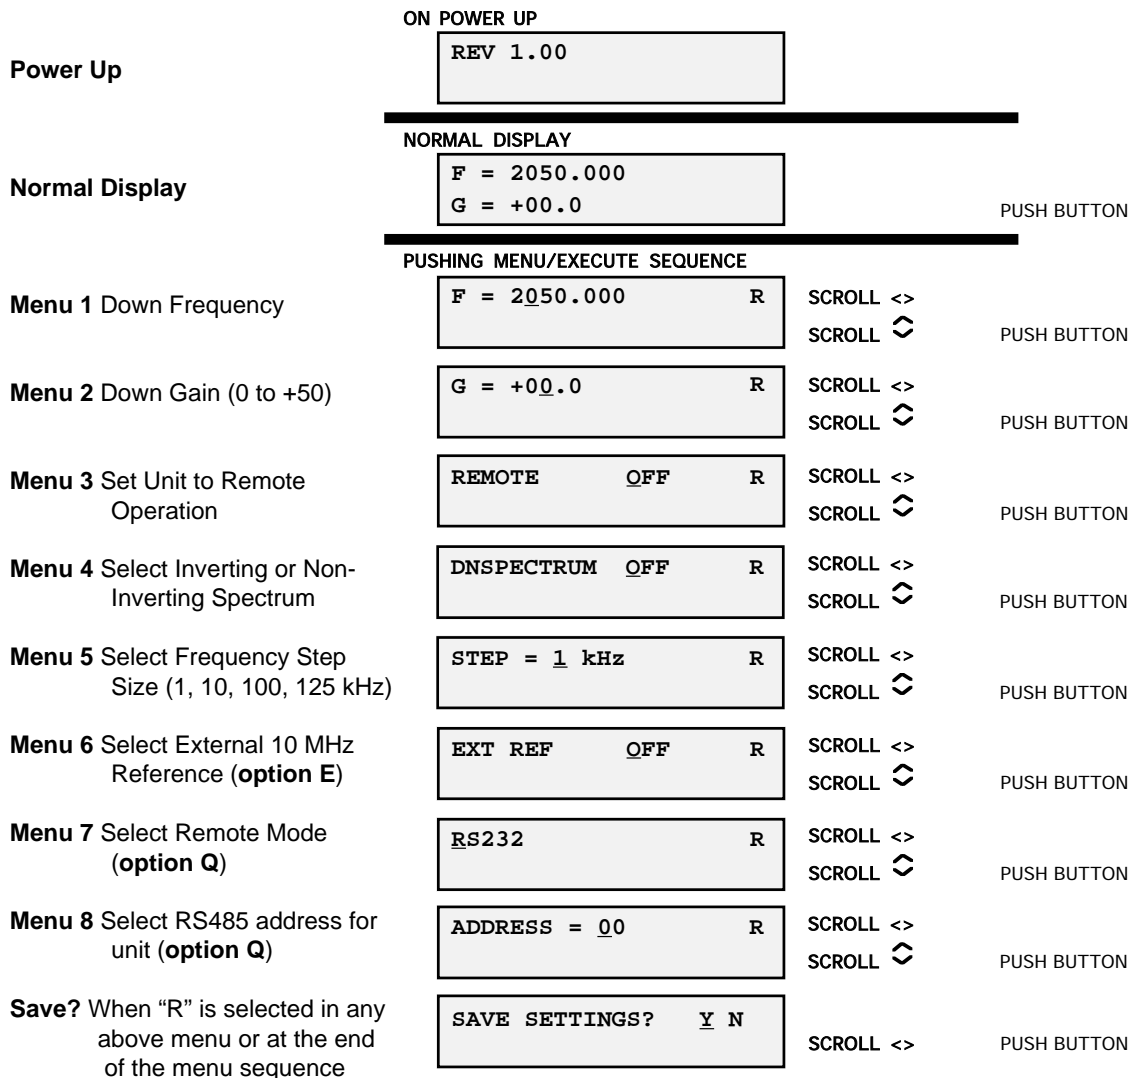

FIGURE 2.5 Menu Display and Sequence
This section describes operation of the front panel controls. There are three operator switches, the LCD display and alarm indicator LEDs. All functions for the equipment are controlled by these components. The functions are (see Figure 2.5):
1. Operate the Menu/Execute switch until you get to the menu item you want to change see Figure 2.5 for the sequence of menu options. The following display is for changing the downconverter frequency:
Figure 2.5 shows all the menu items and how to make changes.
Operate the Menu/Execute switch until you get to the menu item you want to change (see Figure 2.5 for the sequence of menu options).
Figure 2.5 gives the menu items and how to make changes